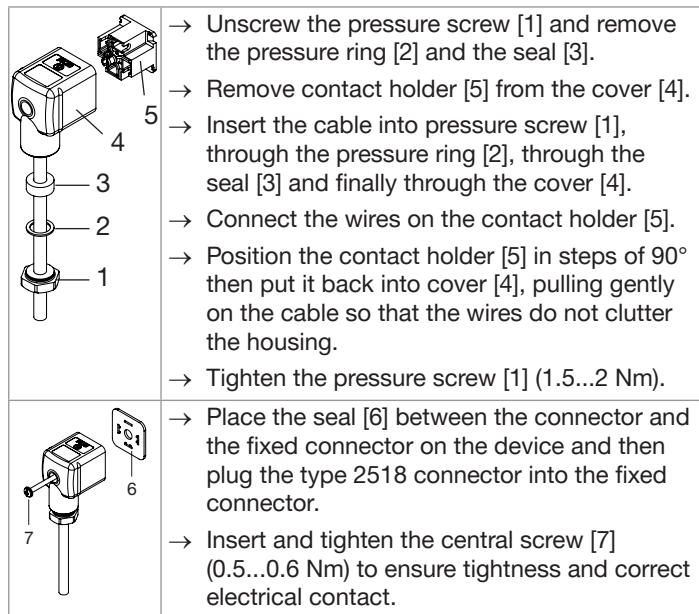

Fig. 5: Assembling the 2518 type female connector (provided)
- unscrew the nut [1] (see Fig. 5) on the 2518 female connector provided with the device;